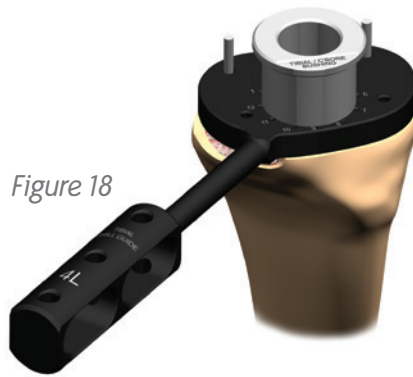

Figure 18
7. Replace the tibial counterbore guide bushing assembly over the pins (*Figure 18*).